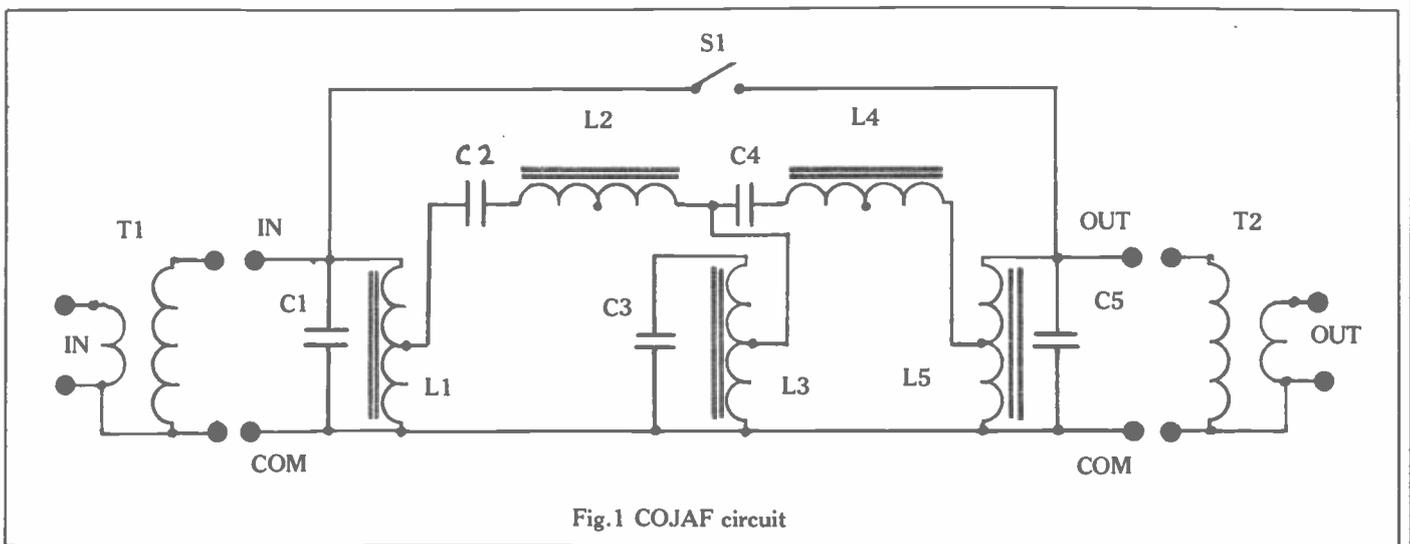

Fig. 1 COJAF circuit
The original W3NQN information is a gold mine of design and circuit calculations but we will simply consider the circuit and go directly on to how to put it together and get hold of the components. Fig 1. shows the circuit diagram of the filter. Ignore T1 and T2 and look at the circuit from the input (IN) to the output (OUT). The circuit is a Butterworth Filter with five tuned stages made up from C1/L1, C2/L2, C3/L3, C4/L4 and C5/L5. The combinations of L and C are arranged to tune the required audio frequency for the reception of the CW note.
Because the filter has an input/output impedance of some 600 ohms and most audio outputs are light ohms, the filter has to be matched into the audio line. This is very simple. Two transformers T1 and T2 are used for matching. There is a large range of transistor output transformers which are around 1200 ohms, centre tapped into eight ohms. Half of the high impedance tapped winding gives about the correct match for the filter, so two of them may be used "back to back" as shown in Fig 1.